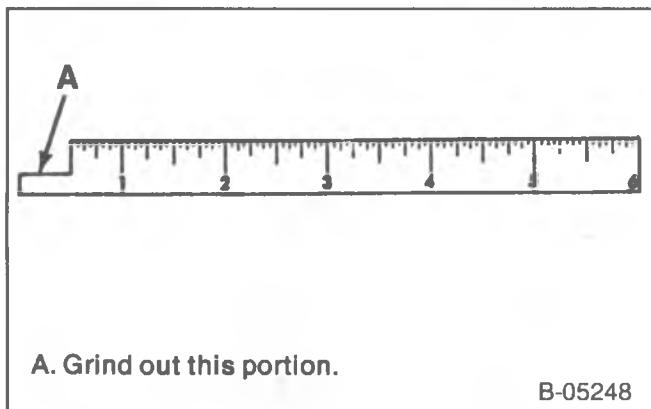

**Figure 43—Checking the Valve Seal
- Check each seal, using J-23738-A (figure 43). Place the adapter cup over the shield. Operate the vacuum pump. Observe the vacuum pump gage. No air should be able to leak past the seal. If the seal will not hold a vacuum, it may have been damaged or improperly installed.